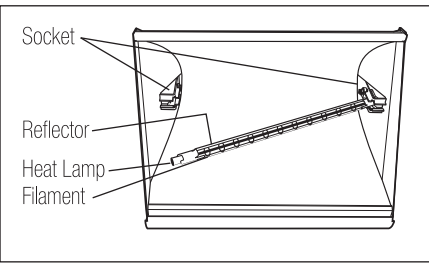

Fig.14
The heat lamp is half coated with a white reflector. When you grasp the heat lamp, face the back of the reflector to the ceiling (so you can see the heat lamp's filament). Not doing this will reduce performance. (Fig 14)
6. Fit one end of the heat lamp into a socket and gently push it away from the other socket. (Fig 14)